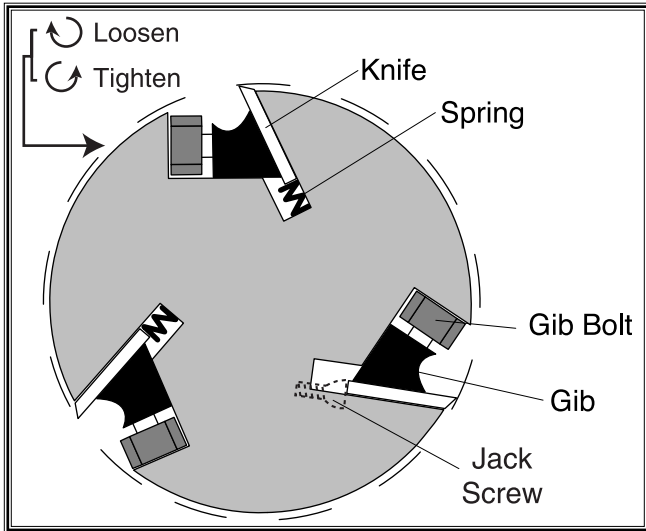

Figure 22. Understanding cutterhead assembly.
The knives in the Model W1679 come from the factory with jack screws installed. Springs are also included as an option for knife adjustments, depending on your preference. **Figure 22** shows an illustration of the cutterhead components. The knife position should be as precise as possible in the cutterhead. All knives should be within .002" from one end to the other and within .002" from one knife to another.
5. Place the knife gauge on the cutterhead as described in the "Checking Knives" instructions and as shown in **Figure 22**.